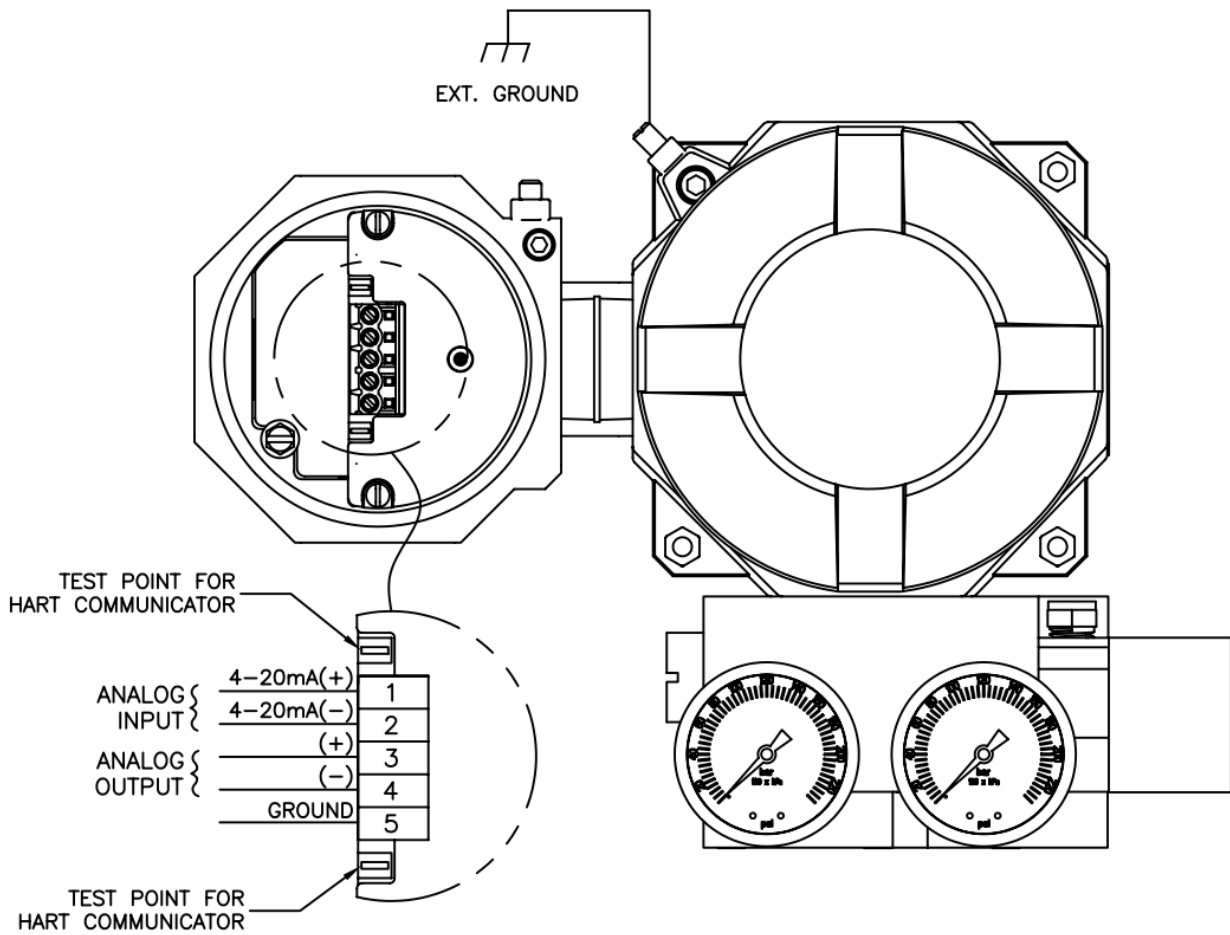

Figure 3-8
3. Connect the 4 to 20 mA loop signal to terminal points marked 1 and 2. See figure 3-8 for a wiring schematic.
4. If the positioner was ordered with an analog output, connect output wiring to terminal points 3 & 4, (polarities shown on Figure 3-8). The 4-20mA analog output is of the current sink type. Typically the 24VDC supply required comes from the HOST system (24VDC nominal).
6. External grounding is required for all zone installations. All wiring must be done in accordance with local and national electric code. See figure 3-8 for external ground connection.